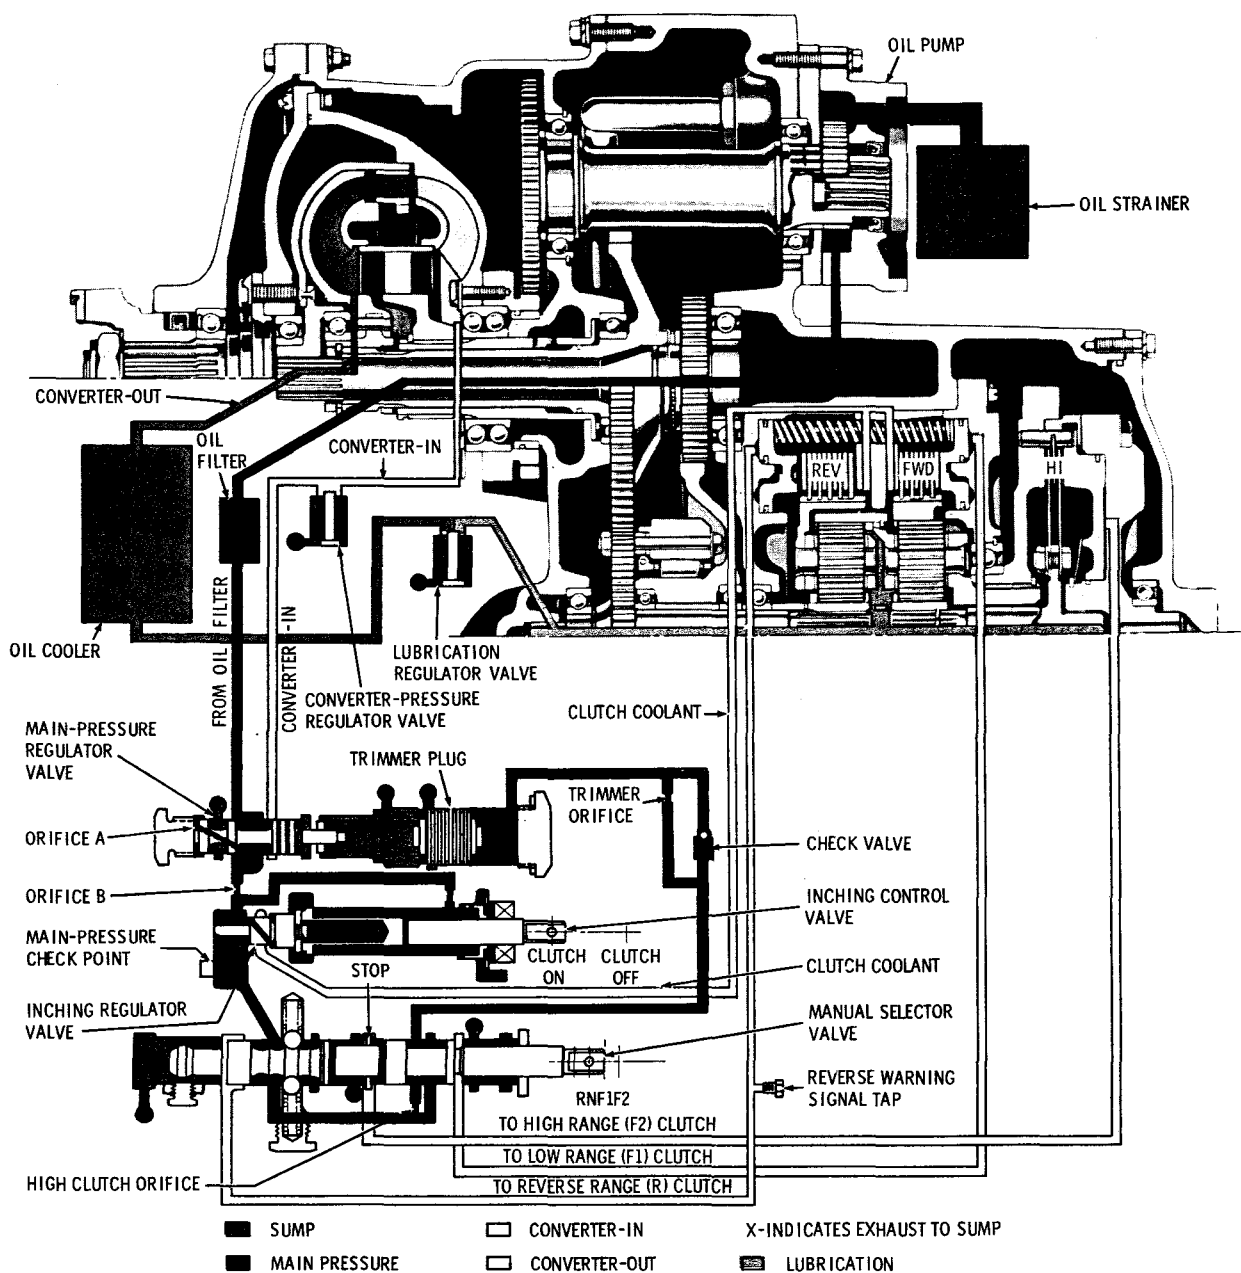
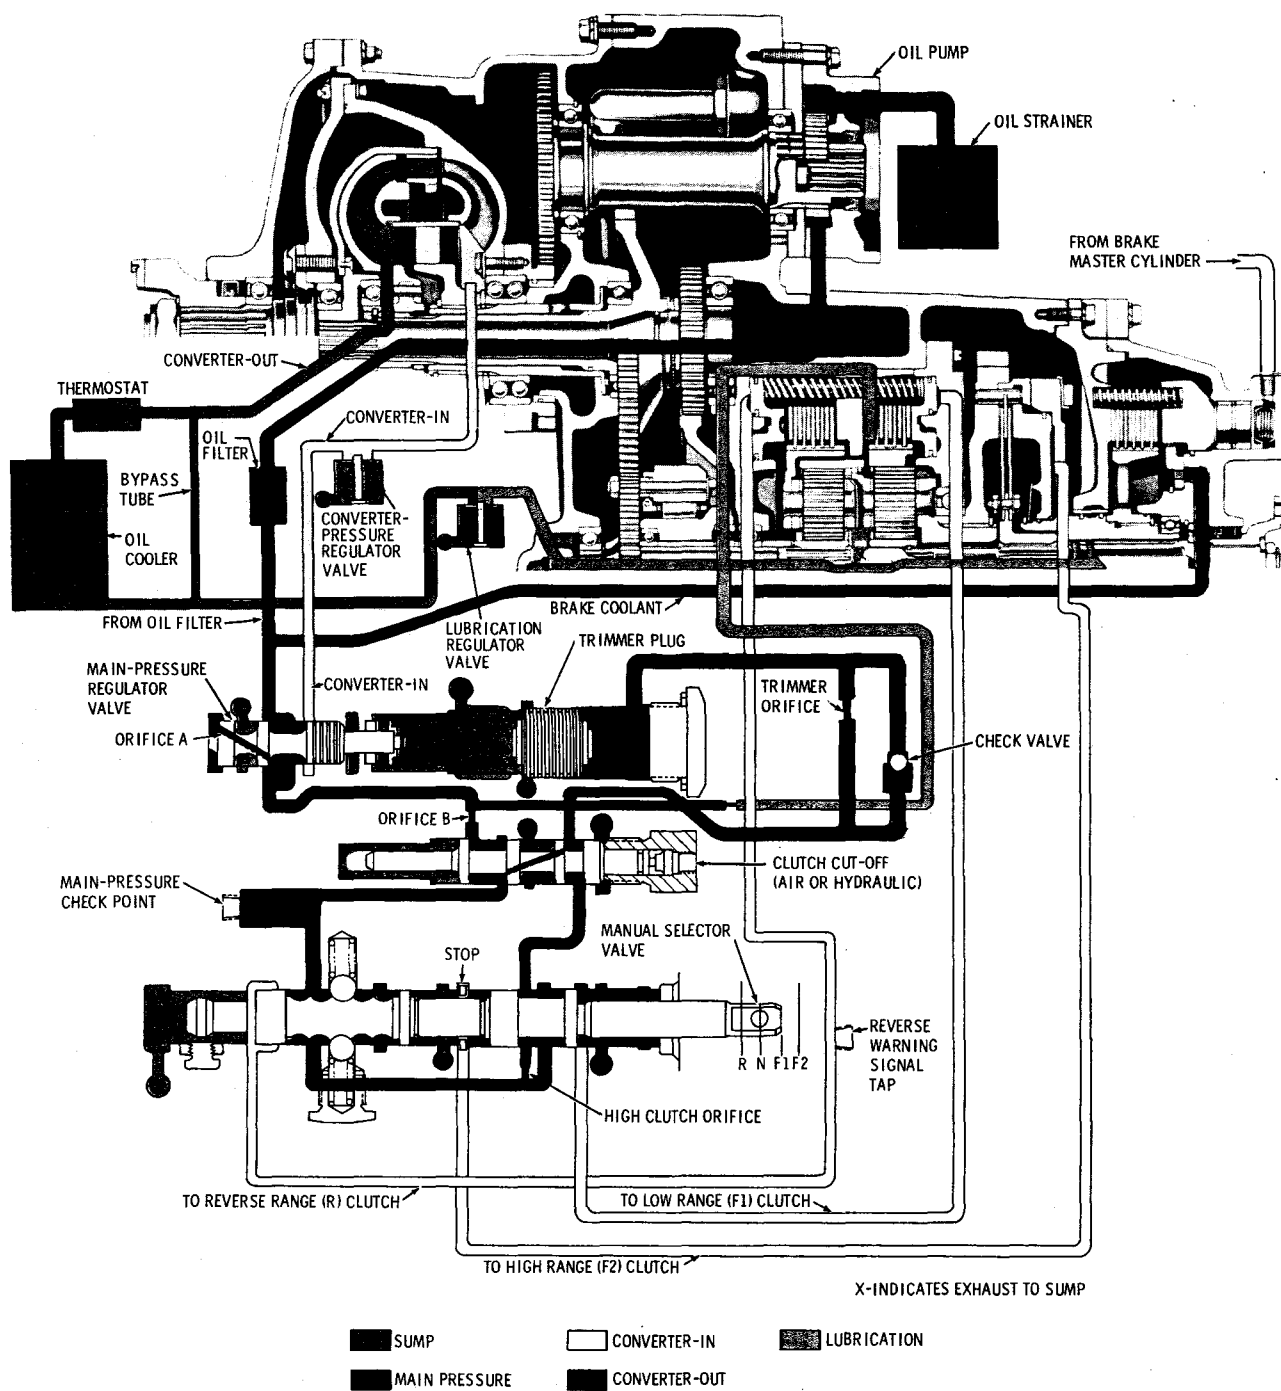

Fig. 2-2. TT 2221-1 hydraulic system with inching control—schematic view
Fig. 2-3. TTB 2221-1 hydraulic system with clutch cutoff control—schematic view
b. System Schematics (fig. 2-1, 2-2, and 2-3). Color-coded schematics are presented which illustrate the two hydraulic systems — clutch cutoff (fig. 2-1) and inching control (fig. 2-2). The additional circuits required for the internal brake and thermostat (fig. 2-3) are also shown.
#### h. Inching Control Valve Circuit (fig. 2-2)
Lubrication Circuit (fig. 2-3)